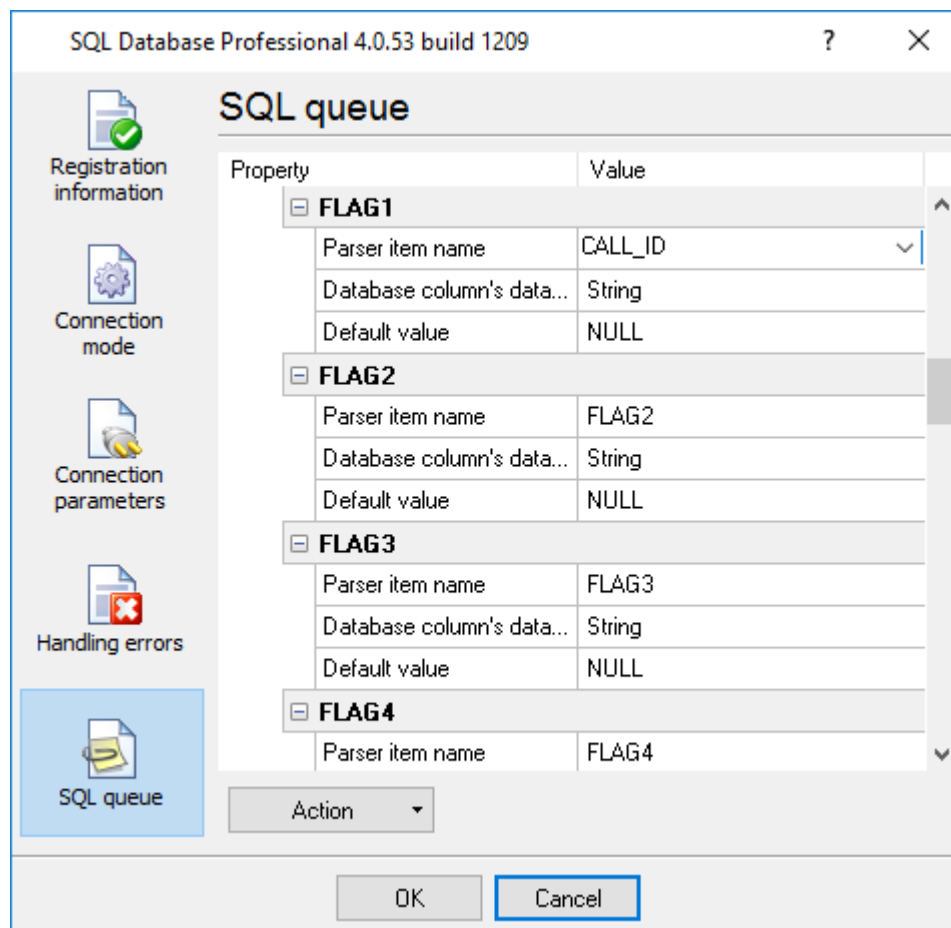

Figure 2. Binding in SQL Database Pro
3. Click the “Parser item name” value and bind it to a different parser variable, “CALL\_ID” (Figure 2). If the drop-down list does not contain the variable name, enter that name manually.